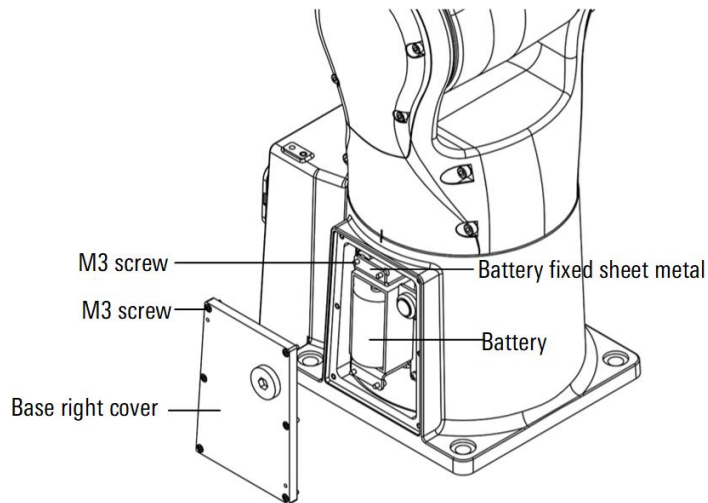

Figure 10-4 Replace the battery
Step3. Remove the right cover plate of the base, as shown in the above Figure 10-4.
Step4. Remove the battery fixing sheet metal, as shown in the above Figure 10-4.